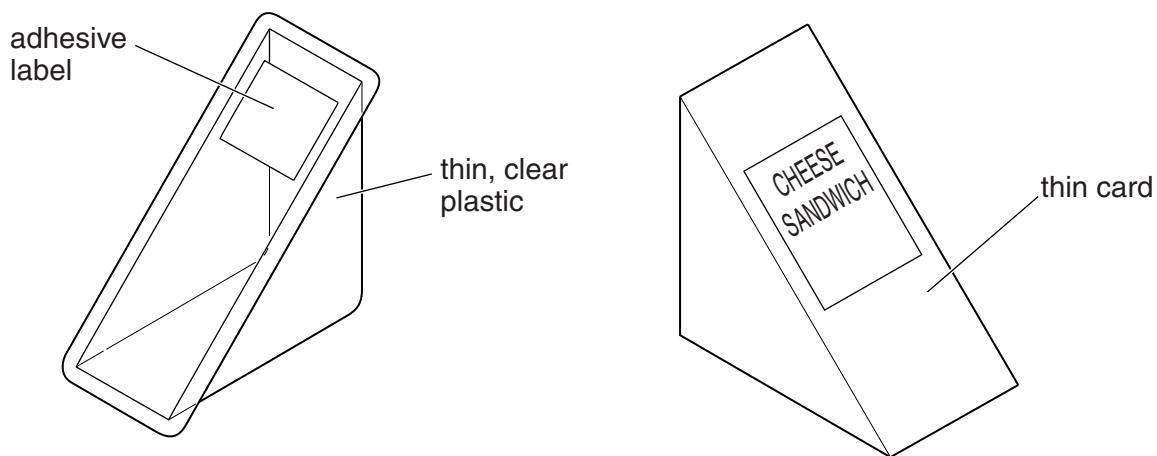

Fig. 4
**(e)\*** Fig. 4 shows two sandwich packages.